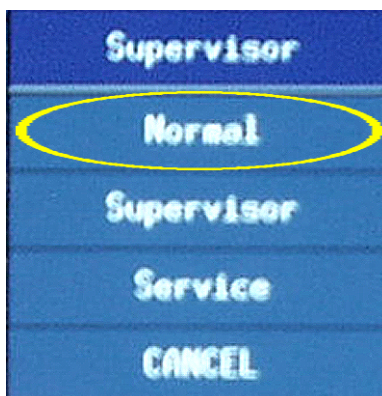

Figure 23
- 128 Click on “Normal.” See the circle in Figure 23.